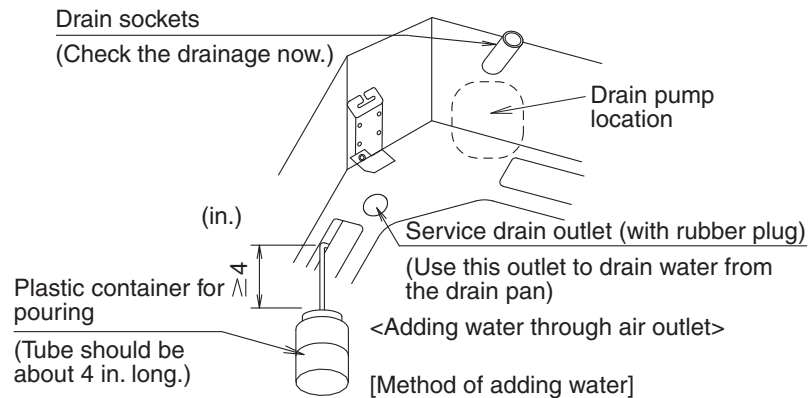
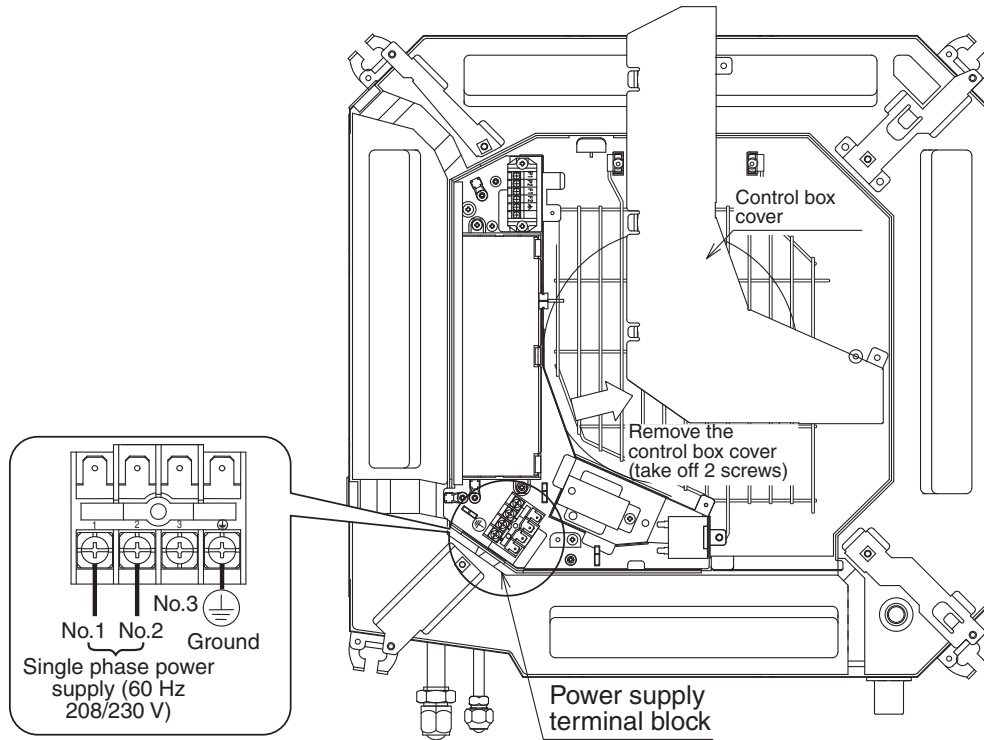

Fig. 23
Fig. 24
- After confirming drainage (**Fig.23, Fig.24**), turn off the power supply and remove the power supply wiring.